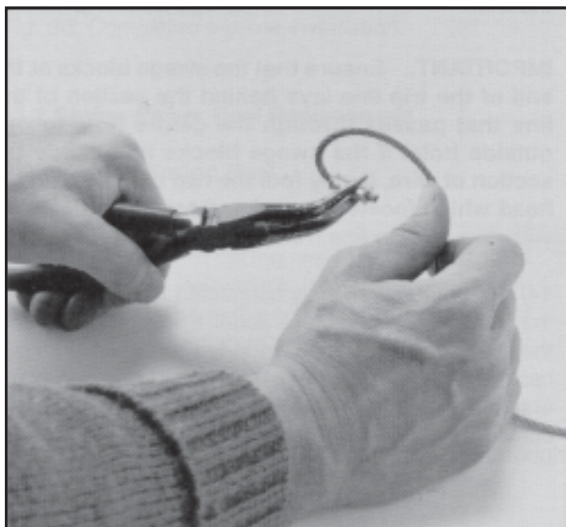

Fig. 25: Bend the end of the trip line into a tight spiral.
6) Bend the end of the trip line into a tight spiral using a pair of pliers. See Fig. 25.